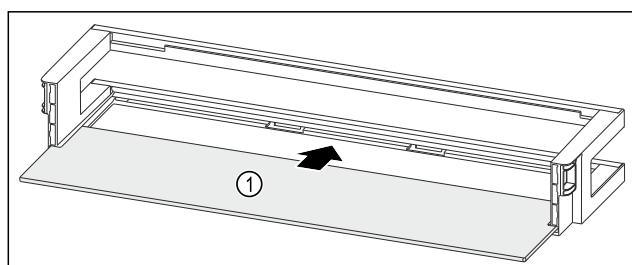

Fig. 118 Door rack with shelf
- ▶ Push the shelf Fig. 118 (1) into the side recesses.